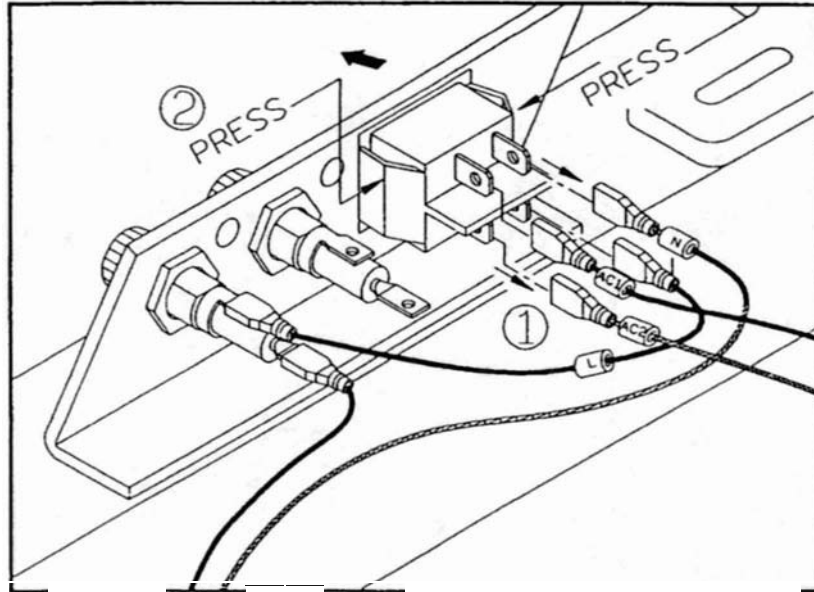

Fig.1
2. Unplug the two wires on the bottom of the switch socket and the two wires on the top of the switch socket. Then press to remove the power switch from its bracket (see Fig.1).